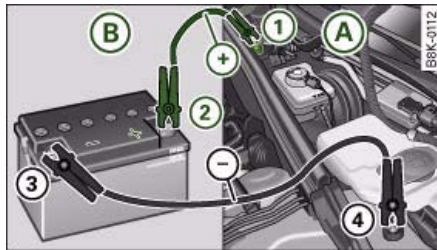

Fig. 249 Jump-starting with the battery of another vehicle: A - Discharged battery, B - Boosting battery
1. Connect one end of the lead to the **jump-start terminal** ⇒ fig. 249 ① (terminal under red cap = "positive") of the vehicle with the flat battery ④.
2. Connect the other end of the positive lead to the positive terminal ② of the boosting battery ⑤.